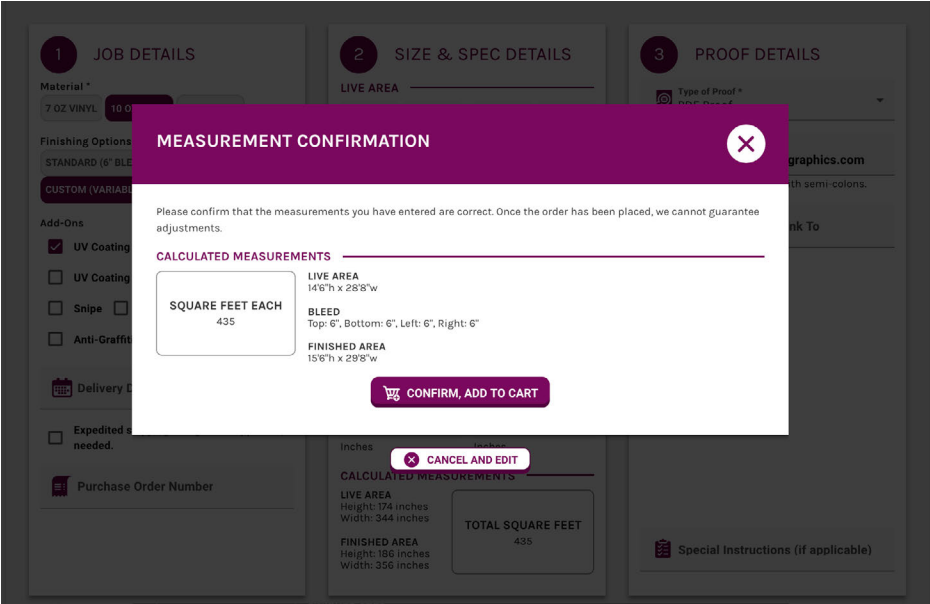

Fig. 7
- 4.If the **Order Details** are complete click the **Add to Cart** button at the bottom right. A window will come up asking to confirm sizes. If correct, click the **Confirm, Add to Cart** button, if not click the **Cancel and Edit** button to edit the order. (see Fig. 7)